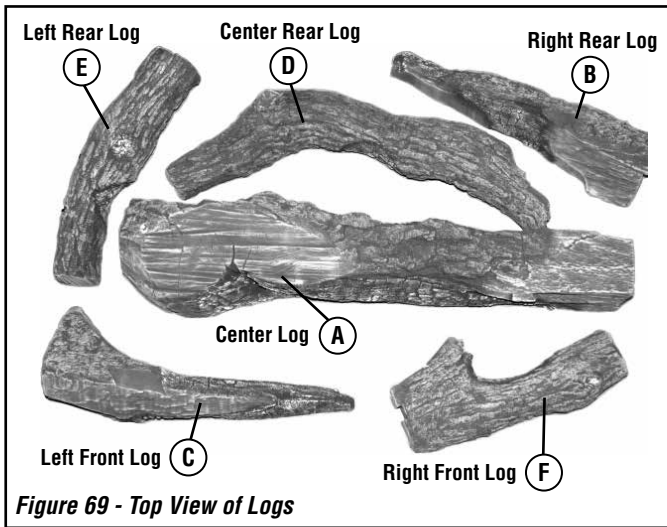

Figure 69 - Top View of Logs
5. Install logs (reference **Figure 69** and **Table 5**).